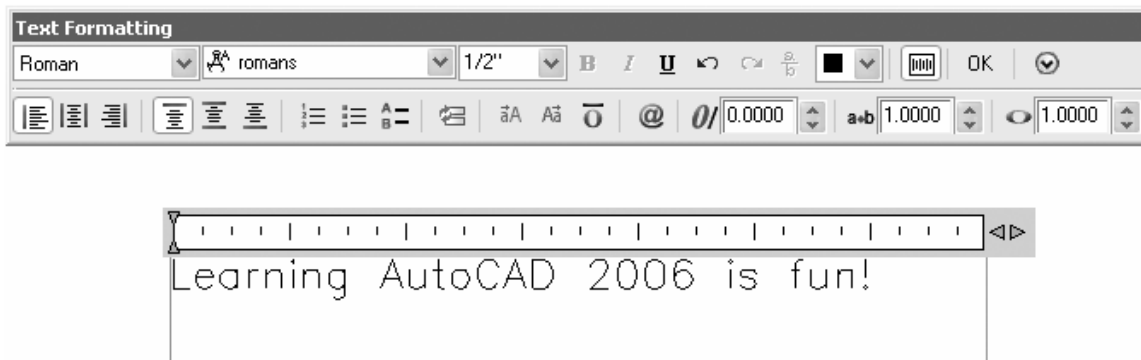

Figure 2-4.3 Mtext; text typed in text editor window, Text Formatting toolbar displayed
6. In the *Mtext Editor* you will type the following text (Figure 2-4.3): **Learning AutoCAD 2007 is fun!**
7. When finished typing text, click the **OK** button on the floating *Text Formatting* toolbar shown in Figure 2-4.3 above.
Your text should look similar to Figure 2-4.3. Text can be Moved and Rotated with the tools on the *Modify Toolbar*.
With the Mtext Editor open (Fig. 2-4.3), you can Copy/Paste text in from other programs such as MS Word. Most of the formatting (e.g. font, bold, underline, etc.) will be preserved.